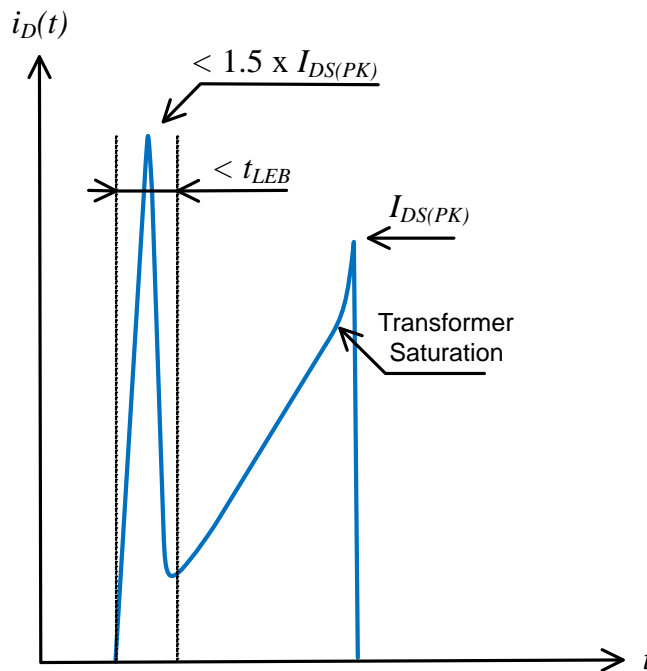

Figure 4. Spike Limits
2. Maximum drain current $I_{DS(PK)}$ is obtained when the transformer saturates. It should not be mixed with short pulses that can be seen at turn on. Figure 4 below provides spike limits the device can tolerate.